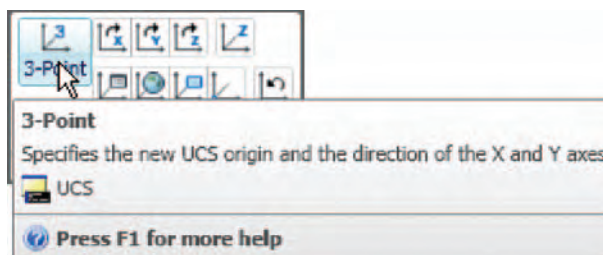

Fig. 17.13 The **UCS, 3 Point** icon in the **View/UCS** panel
4. Click the **UCS, 3 Point** tool icon in the **View/UCS** panel (Fig. 17.13):